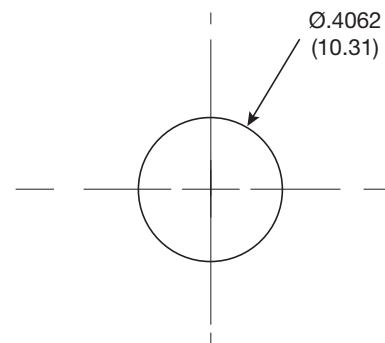

Figure 1
Select a location where the potentiometer is to be mounted. This should be such that it is within the allowable cable length supplied. (Figure 1)
2. Mark panel per Figure 1